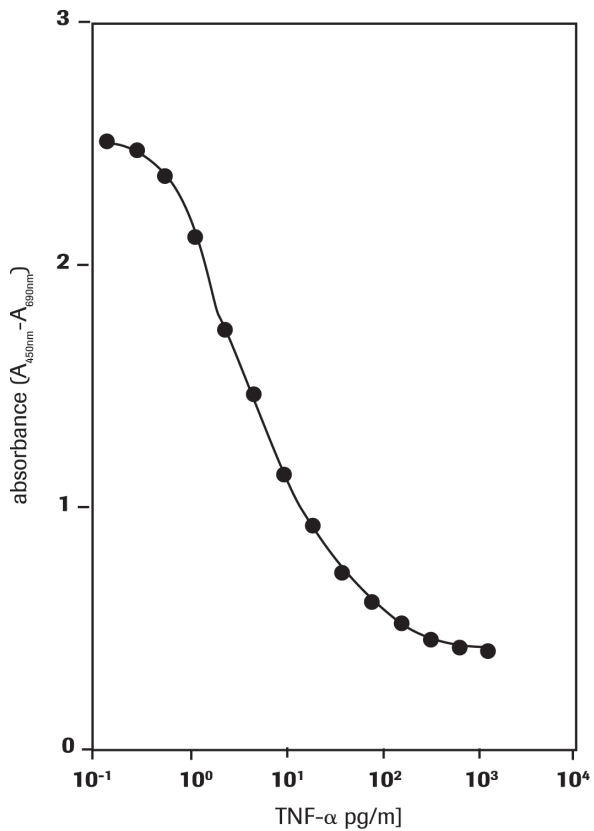

Fig. 2: Determination of the cytotoxic activity of human TNF- α on WEHI-164 cells.
- Assessment of growth inhibitory antibodies and physiological mediators (Fig. 2).
For the determination of the cytotoxic effect of hTNF- α on the mouse fibrosarcoma cell line WEHI-164, see Figure 2, section, **Application**.
- 7 Measure the absorbance of the samples against a background control as blank using a microplate (ELISA) reader. The wavelength to measure absorbance of the formazan product is between 420 and 480 nm (maximum absorption at approximately 440 nm) according to the filters available for the ELISA reader used (Fig. 2, section, **Application**). Use a reference wavelength >600 nm.